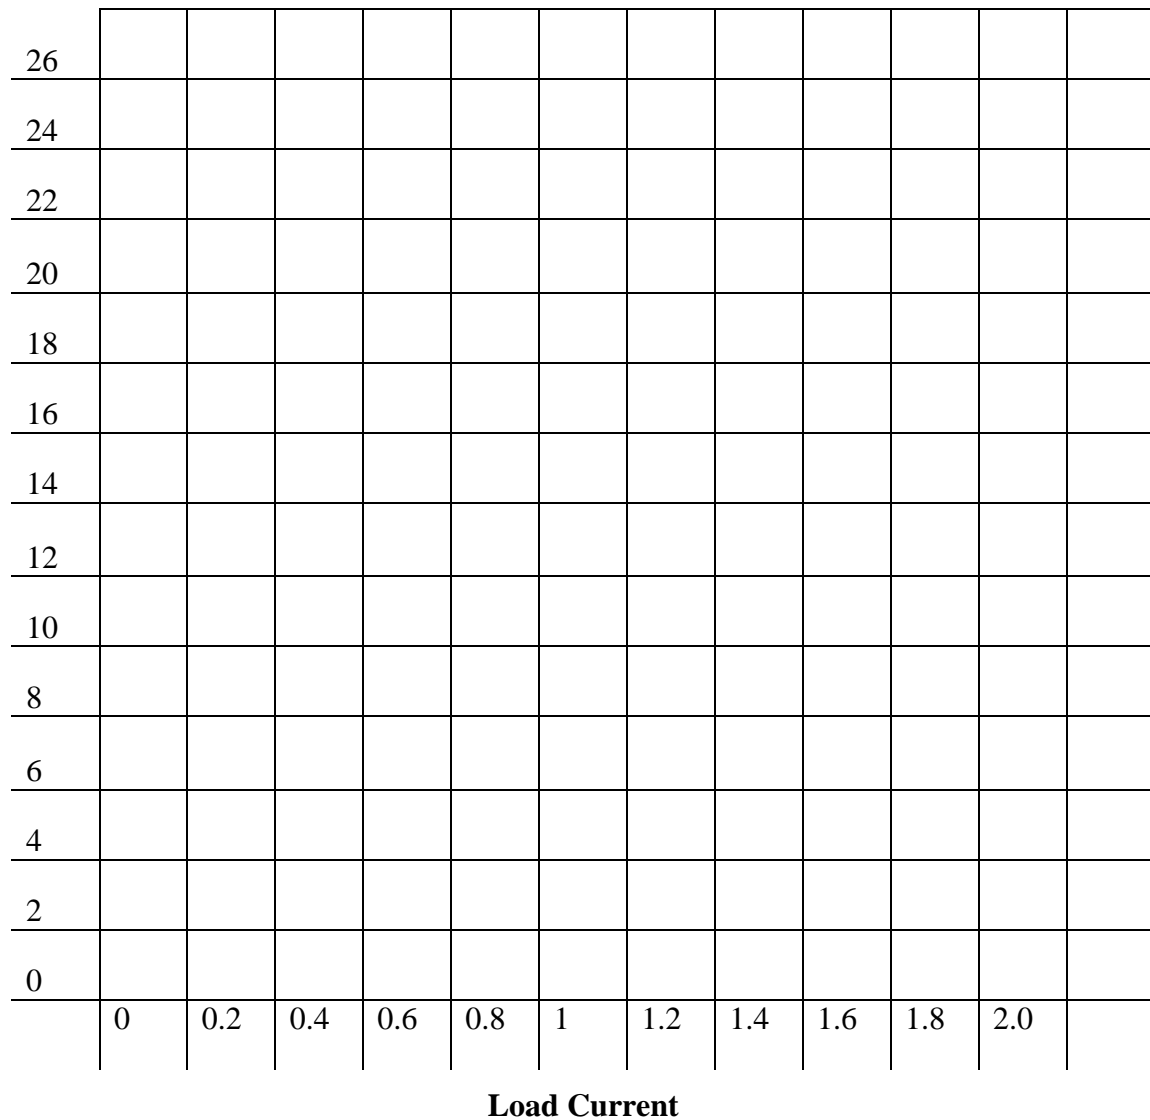

Figure 5
4. Using the axis of figure 5, draw the load characteristic for the generator?